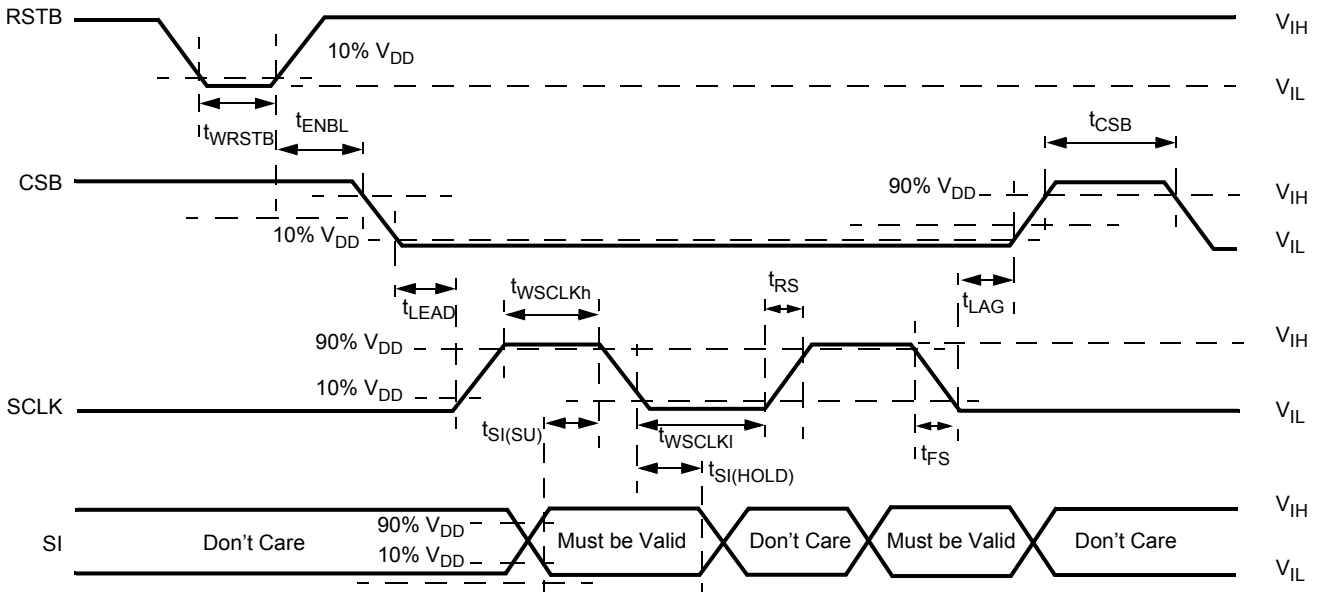
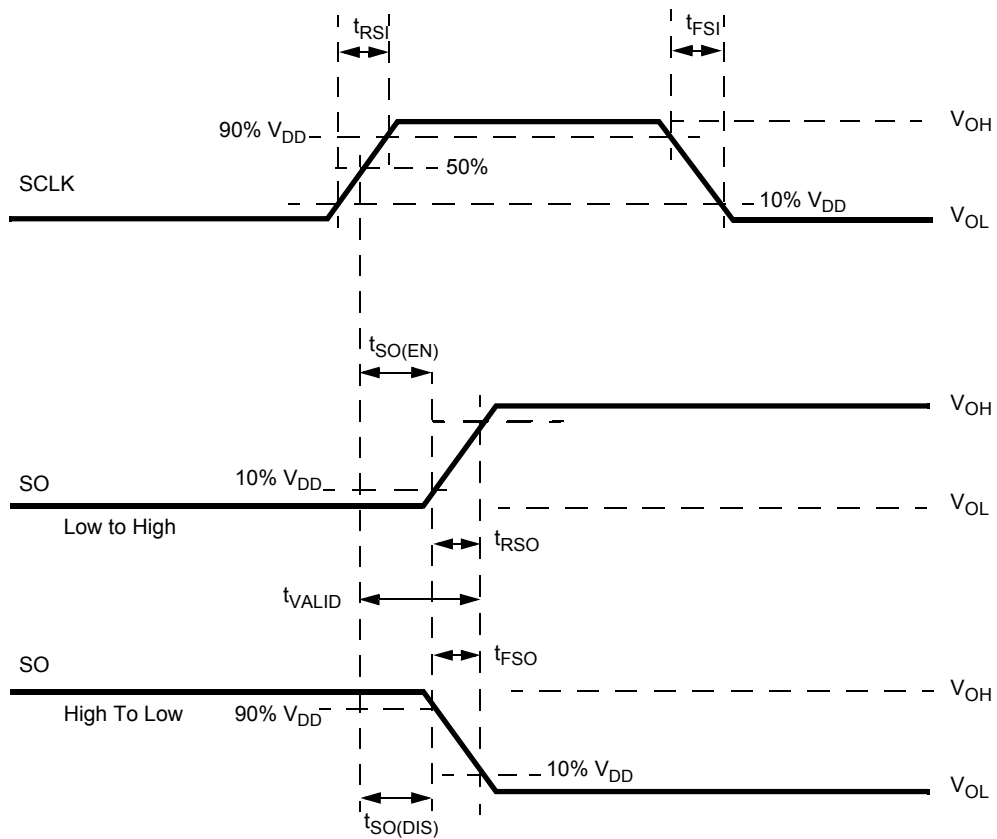

Figure 7. Timing Requirements During SPI Communication
Figure 8. Timing Diagram for Serial Output (SO) Data Communication
edge of CSB. The SO output driver is enabled when CSB is logic [0]. CSB should transition from a logic [1] to a logic [0] state only when SCLK is at logic [0]. CSB is internally pulled up to V_{DD} through I_{UP} . (see Figure 7 and Figure 8).
Serial input (SI) data bits are shifted in at this pin. SI data is read on the falling edge of SCLK. 16-bit data packages are required on the SI pin (see Figure 7), starting with bit D15 (MSB) and ending with D0 (LSB). All the internal device registers are addressed and controlled by a 4-bit address (D9-D12) described in Table 11. Register addresses and function attribution are described in Table 12. The SI pin is internally connected to a pull-down current source, I_{DWN} .